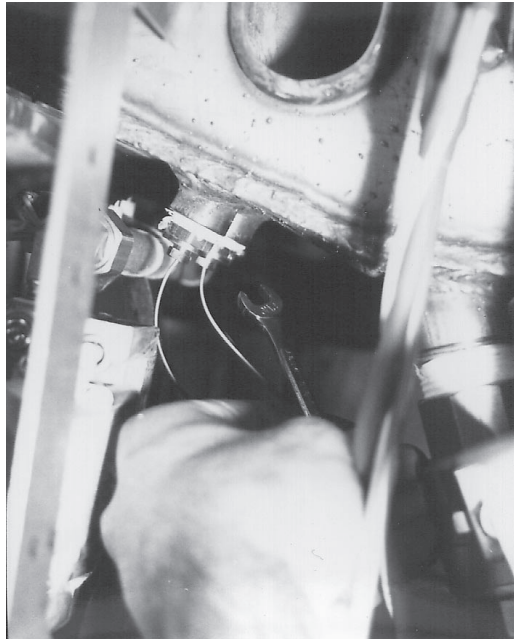

Fig. 31
7. The high limit fitting is the one toward the rear of the tank. With $\frac{1}{2}$ " wrench, remove the high limit packing nut. (Fig. 31)